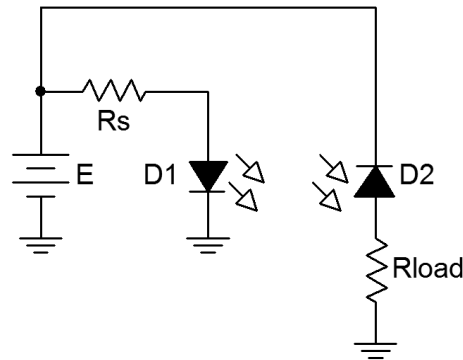

Figure 1
5. Figure 1 shows an emitter/detector pair. These devices will emit and detect light at the same wavelength and tend to not produce or detect light at other wavelengths. This aids in avoiding interference. The detector is configured in photoconductive mode. Its current will increase with increasing light level. This current also flows through R_{load} meaning that V_{load} will be proportional to light level.
6. Build the circuit of Figure 1 using $E = 7$ volts, $R_s = 470\ \Omega$ and $R_{load} = 33\ k\Omega$. The emitter diode is denoted with a yellow dot on its case while the detector diode shows a red dot. It is very important